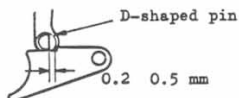

Fig.4-43
- a When the back cover is opened with the shutter un-cocked, a proper clearance must be maintained between the step of the stabilizer and D-shaped pin on the stopper release lever, as shown in Fig. 4-43.